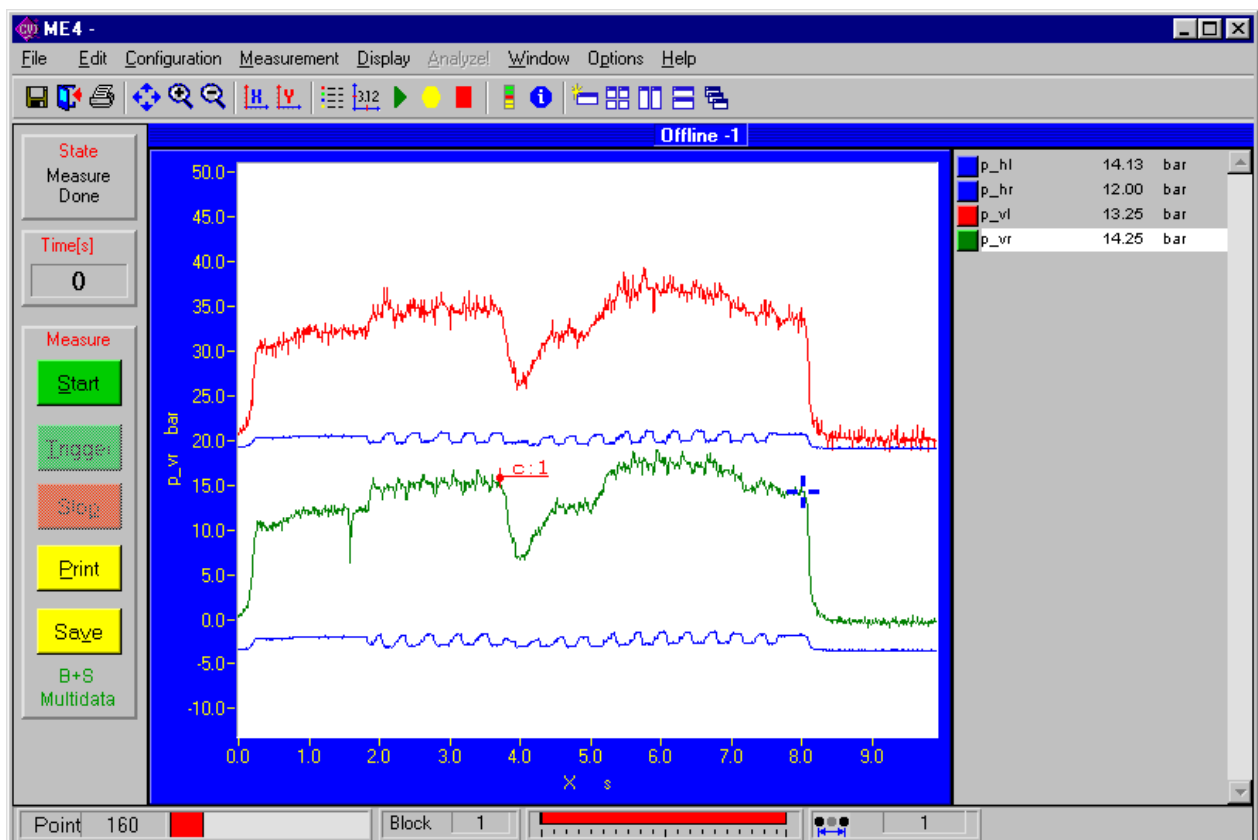
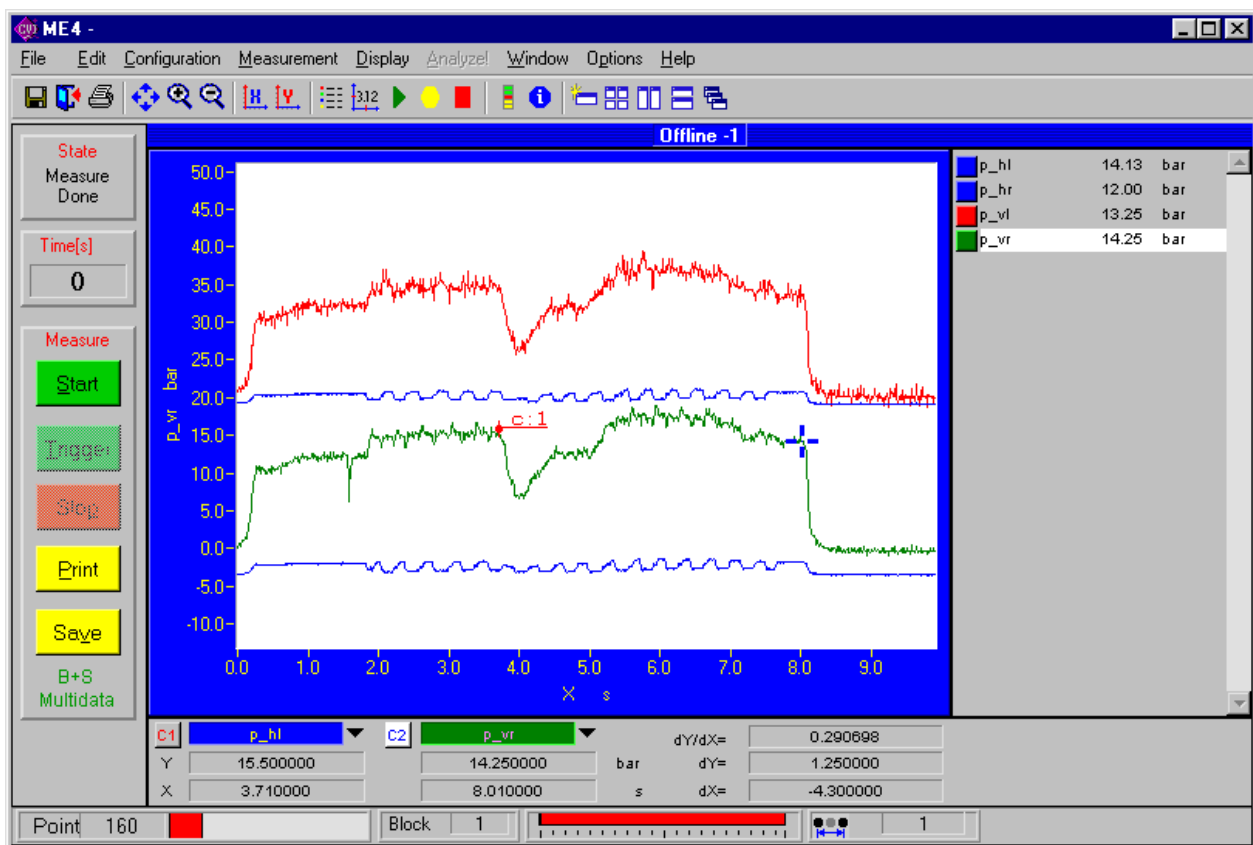

Fig. 3
Fig. 4
3. Active channel has white background color for offline display. -> Fig. 3, Fig. 4